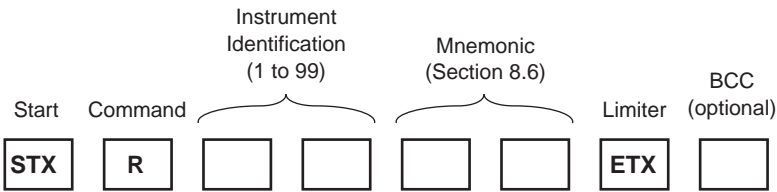

Fig. 8.1 'Read' Command Format
...End transmission (ETX) – see Figs. 8.1 to 8.6.
8.2 Command Format – Figs. 8.1 to 8.3
The protocol is based on ANSI-X3.28-1976-2.5-A4. Entries are made directly from the host computer using the command format shown in Figs. 8.1 to 8.3.